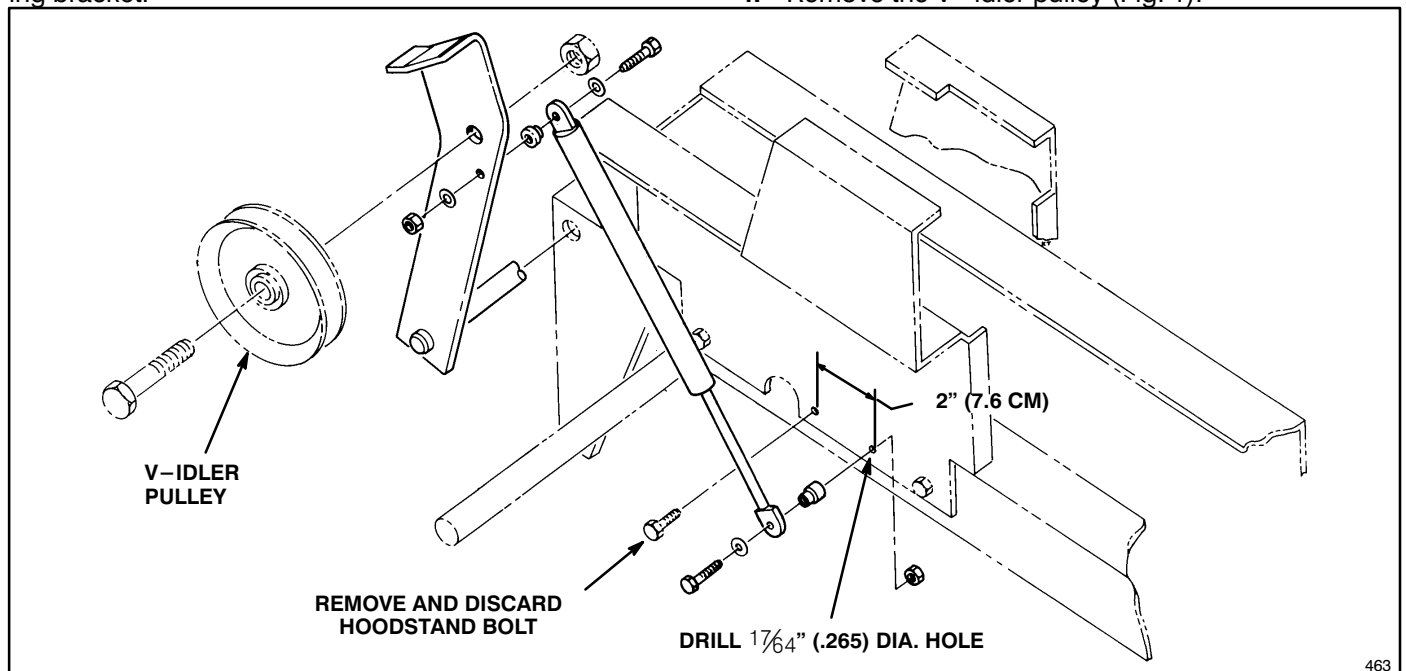

Figure 1
3. Remove and discard hoodstand bolt (Fig. 1). Measure two inches from the hoodstand bolt hole and drill a  $1\frac{7}{64}$ " (.265"/6.75 mm) diameter hole through the hoodstand and frame as shown in Figure 1.
4. Remove the V-idler pulley (Fig. 1).